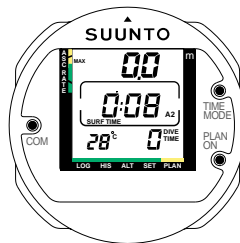

Fig.4.11 PERSONAL/ALTITUDE ADJUSTMENT SETTING, STEP 5
5. The process is ended by the RETURN command, i.e. by connecting all three contacts at the same time (Fig. 4.11). The dive computer will return to the surface mode.